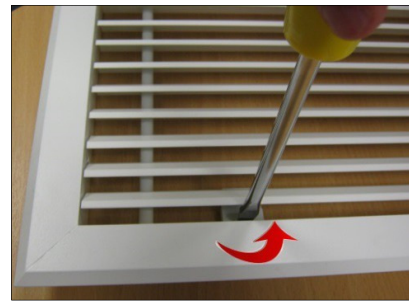

Fig 6
**Step 1** Open the hinged inlet grille using a flat bladed screwdriver to release the quarter turn fasteners (see Fig 6). There are two fasteners on the PHV1000R unit and three fasteners on PHV1500R and PHV2000R units. Before lifting the grille frame into position, remove four (six on PHV1500R/PHV2000R) M6 bolts fitted on the inside edge of air curtain.